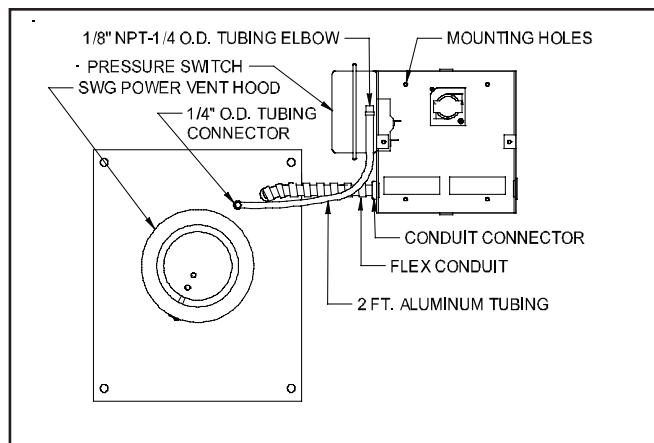

Figure 3
2. Fasten the flexible conduit from the SWG Venter into the conduit connector. Mount the CK-43F junction box or installer supplied junction box onto the wall or floor joist without straining the flexible conduit. Fasten the CK-43F junction box through the four dimpled locations on the base of the box. (See Figure 3)
1. Attach the 1/4" tubing connector to the pressure tube on the SWG Venter. (See Figure 3)